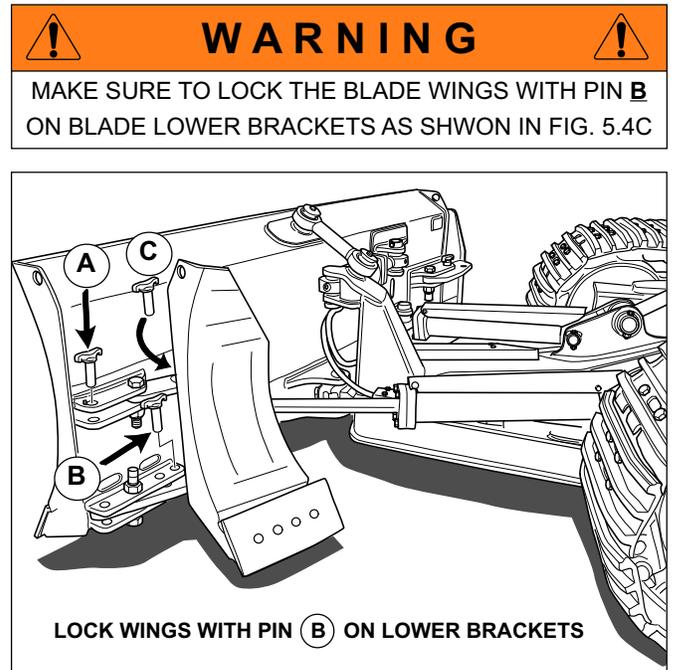

FIGURE 5.4C
- h. Proceed to fold and lock the blade wings, as shown in Fig. 5.4C. Make sure to place pins A, B, and C into the holes as indicated in the figure.